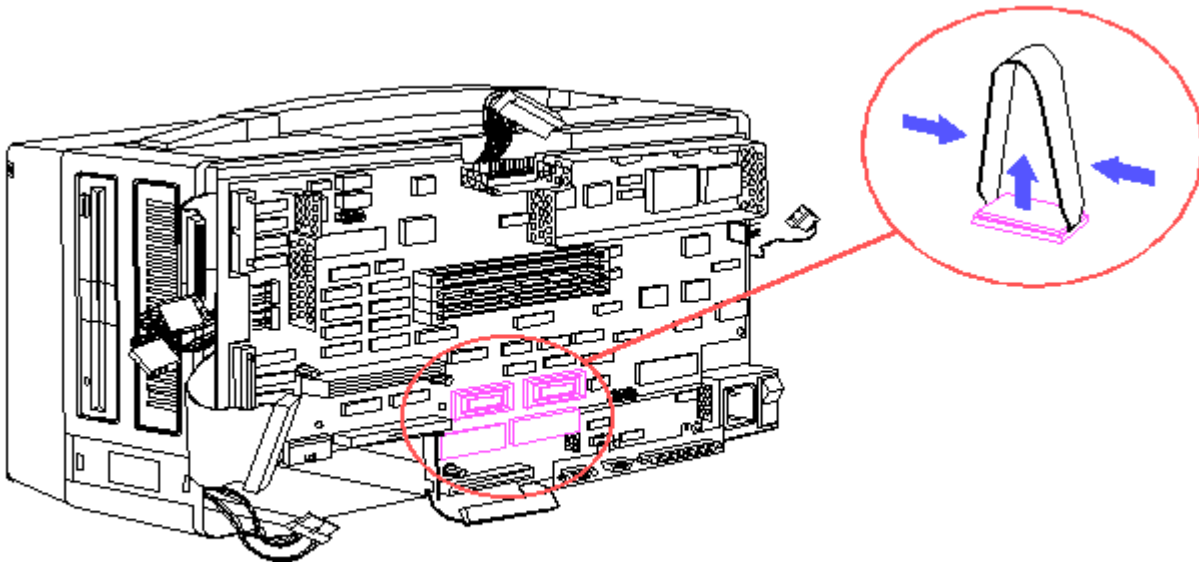

Figure 8-30. Removing the System ROM
- Using an IC removal tool, remove the system ROM (Figure 8-30).